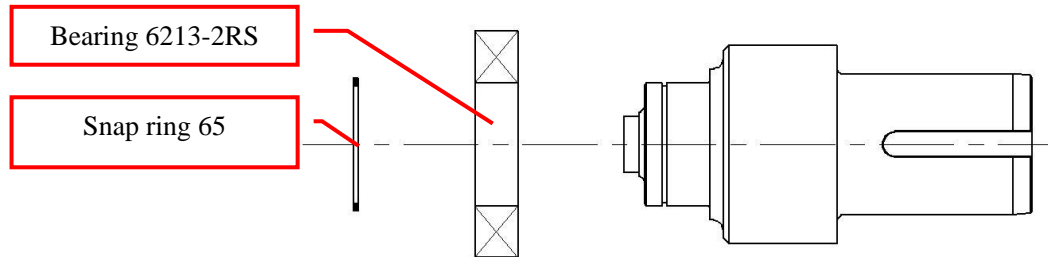

Figure 50: Heat bearing and install
1. Clean the main shaft, and heat the bearing 6213-2RS to 80°C (176°F) then install the bearing onto the main shaft. Install the retainer ring 65 onto the main shaft to secure the inner ring of the bearing. Wait for the bearing to cool. See Figure 50.